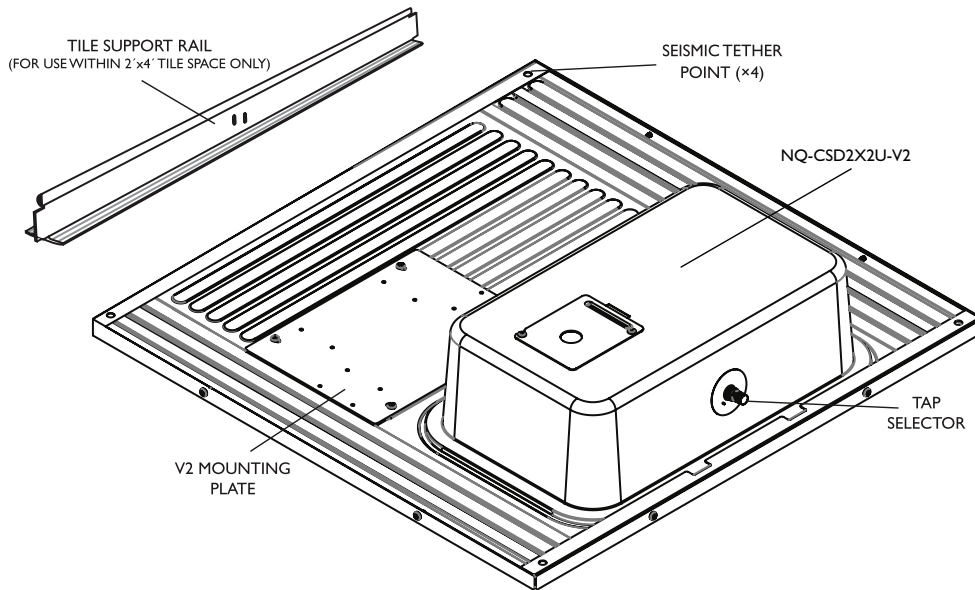

Figure 9: Speaker installation with mounting plate and tile support rail.
2. Place speaker in ceiling with the tile support rail facing the ceiling-tile opening (see **Figure 9**).